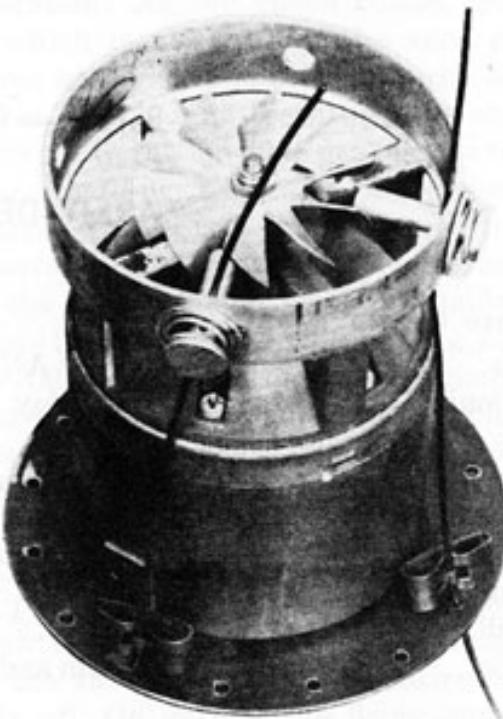

Figure 322. Auxiliary Safety Device for V.T. Bomb Fuzes
**Auxiliary safety device for V.T. bomb fuzes:** To prevent accidental arming of V.T.-fuzed bombs mounted on exposed wing racks, the additional arming wire assembly, plate, and fahnestock clips shown in figure 322 may be installed on the Fuze M168. For aircraft to be catapulted, the Fuze Protector Mk 1 Mod 0 is used instead, since this device protects the fuze and also secures the arming wires.